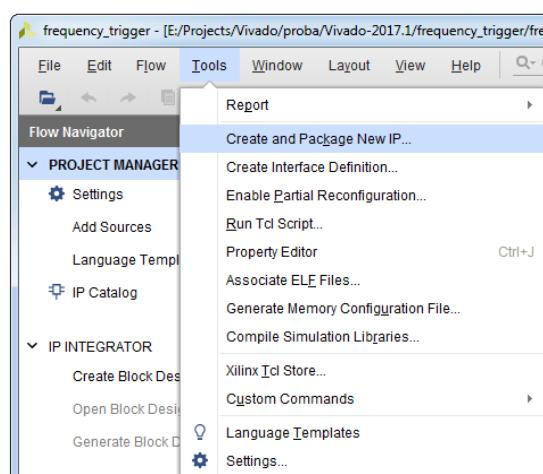

Figure 12.67: Create and Package New IP option
7. To create AXI4 peripheral and to integrate it into our design we will use **Create and Package IP** wizard to guide us through all the required steps and settings. In the Vivado IDE main menu, select **Tools -> Create and Package New IP...** option, see Figure 12.67.